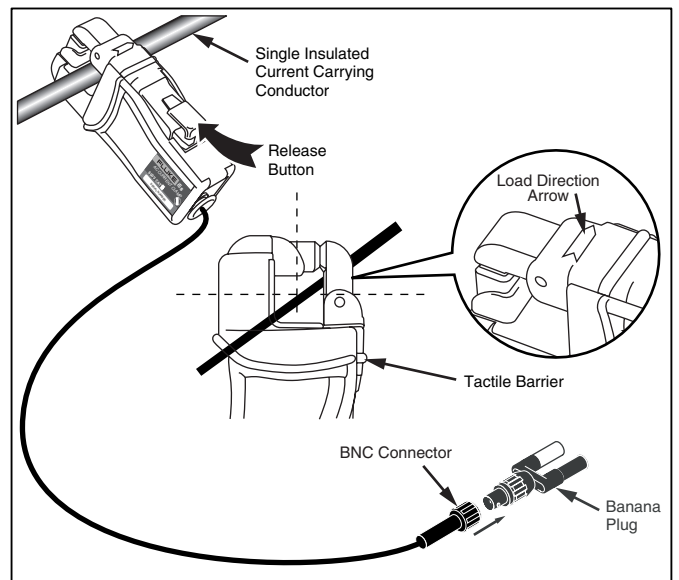

Figure 1. i5s Setup
- Do not hold the Current Clamp anywhere beyond the tactile barrier, see Figure 1.
To use the Current Clamp, refer to "Measurement Considerations" and Figure 1:
To avoid shock or personal injury, keep fingers behind the tactile barrier, see Figure 1.